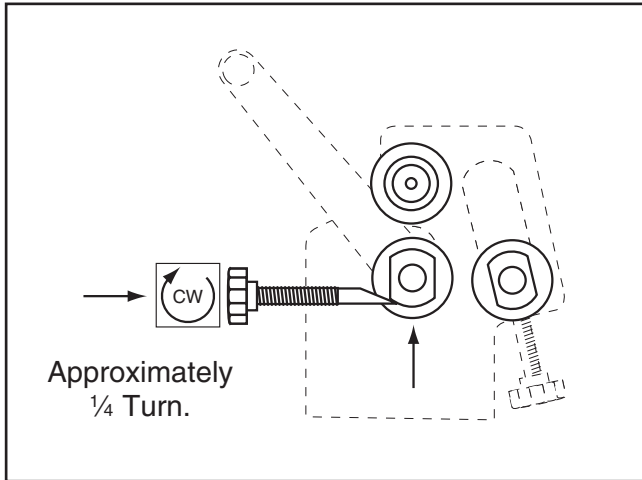

Figure 16. Raising bottom roller $\frac{1}{4}$ turn.
- Remove the workpiece from between the rollers, then raise the bottom roller slightly by rotating each thickness adjust knob approximately $\frac{1}{4}$ turn. Also, make sure the rear roller is lowered completely and will not interfere with the workpiece as it exits the machine (**Figure 16**).